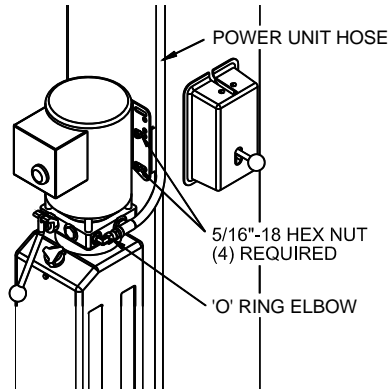

Fig 7 – Power Unit Mounting
- 22) Mount Power Unit to power column as shown in **Fig 7**. The mounting hardware, (4) 5/16"-18 hex nuts, are pre-installed on power unit mounting bracket.
- 25) Thread 9/16-18 O-ring elbow (*in hardware box*) into power unit. Attach free end of power unit hose to elbow. See **Fig 7**. **CAUTION** do not damage rubber O-ring.